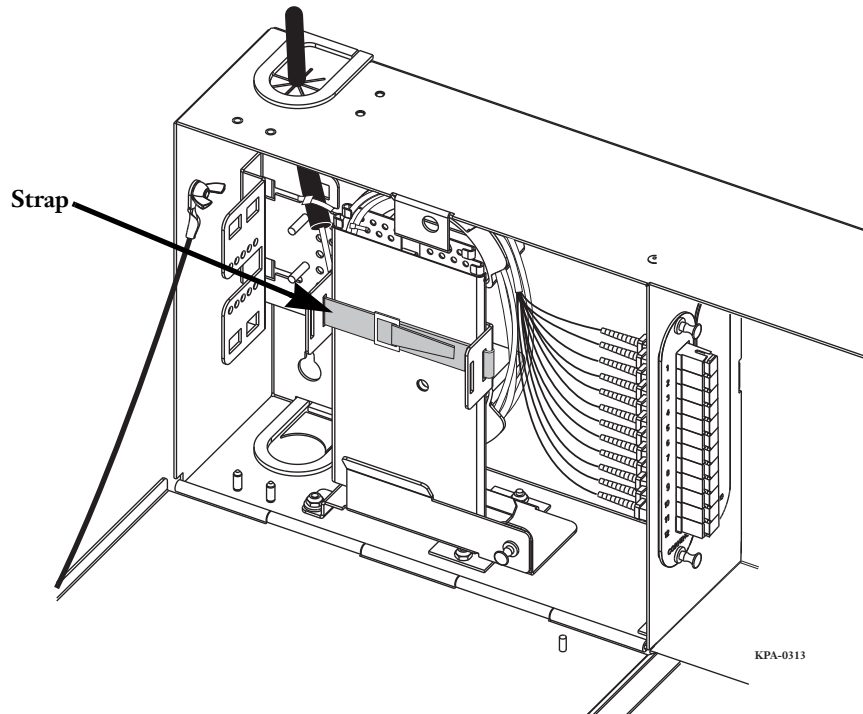

Figure 6 — Secure Splice Tray
- Step 7:** Once all splicing is complete, secure the splice trays into the holder using the hook-and-loop strap (Figure 6).